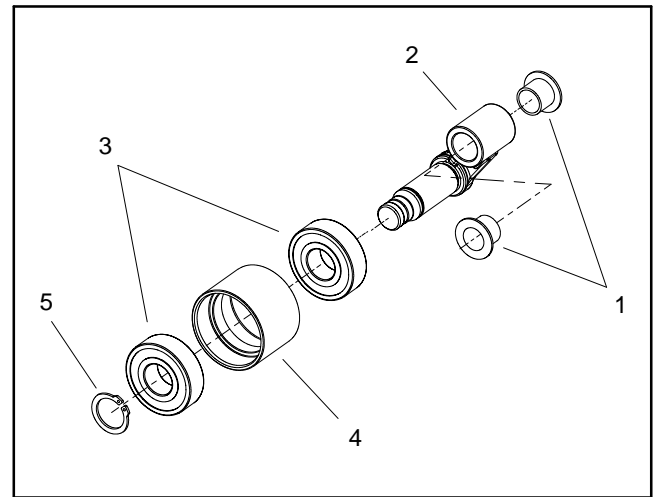

Figure 20
4. Remove seven (7) washer head screws that secure the drum drive cover. Remove cover to expose the drum drive system.
5. Remove and discard gasket (item 3) from between cover and housing.
6. Carefully remove the end of the extension spring (item 9) from idler arm.
7. Remove shoulder screw (item 15) that secures the idler arm assembly to the drum drive housing. Remove idler arm assembly from housing.
8. Disassemble idler arm assembly as needed (Fig. 20). Replace worn or damaged bearings and bushings.